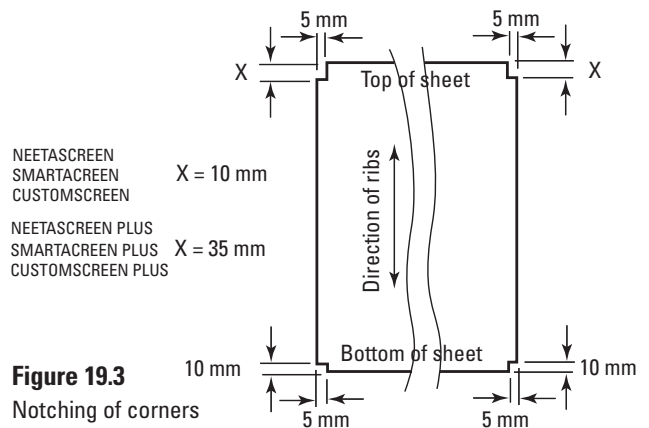

Figure 19.3
- 3) Using tin snips, notch the four corners. The top and bottom notches are different. (Figure 19.3).